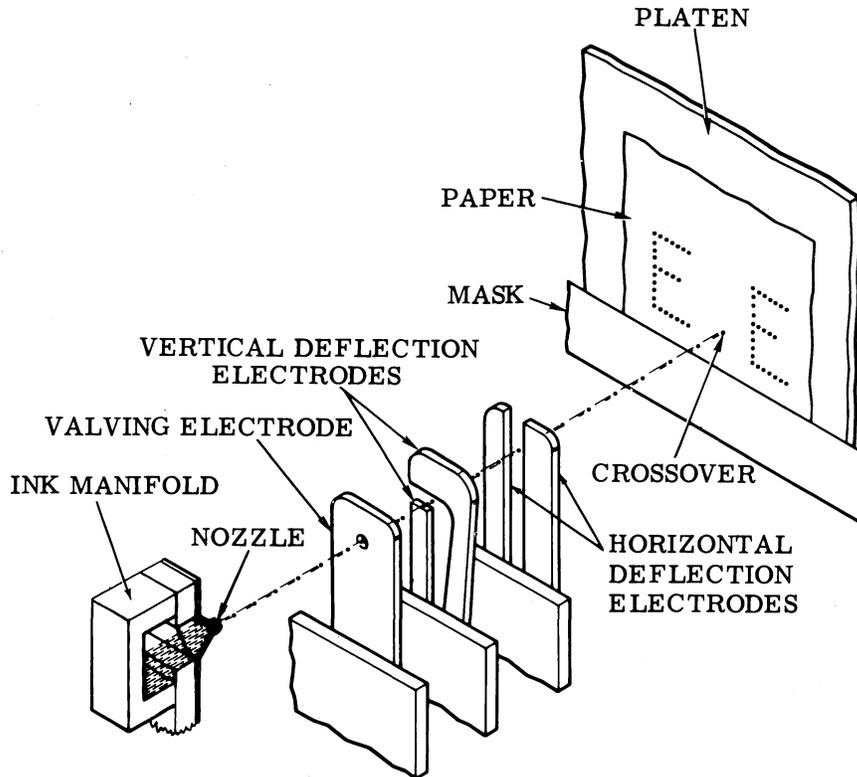

Figure 3 - Ink Manifold, Modulating Electrodes, and Mask Assembly
by a small flow of ink from the reservoir with the surplus draining back over the wires to the reservoir. The ink nozzle assemblies (40) are attached to the ink cavity at a level which will maintain a slight hydrostatic pressure upon all of the 40 nozzles. Each valving electrode (Figure 3) is charged sequentially (left-to-right). These components are encased by the tight fitting cover and the package is aligned with the platen on the transport mechanism.
1.09 A positive potential of 550 volts dc is applied to the respective valving electrode to start the ink flowing from the nozzle at the desired character position (column). Each nozzle assembly prints two characters; that is, the ink stream from one nozzle is caused to cross over on the completion of the left character and print the next character on the right. A basic tracing pattern is arranged by the circuit logic in the cabinet for each character (Figures 3, 4, 16, and 17). By returning the ink stream to its approximate starting point no trailing line is present. As the stream of ink passes through the hole in the valving electrode, the stream is broken up into droplets and into segments to form the desired character as directed by the received data. The horizontal and vertical deflecting electrodes, mounted directly to the rear of the valving electrode, direct a drop to a particular matrix point. Figure 3 shows a typical electrode assembly structure. Forty such assemblies are located side by side to form the printing head. The ultimate goal of the ink droplets is to impinge upon the paper that is stepped across